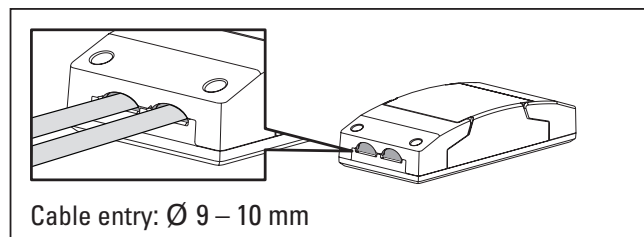

Fig. 10
- For a cable diameter of 7 to 8 mm, remove the cut-out in the protective cover (Fig. 10).